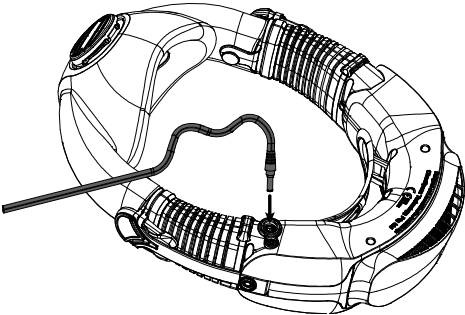

Figure 30 - Charging Port
- To charge the internal battery, turn the respirator upside down, and locate the charging port. See Figure 30 - Charging Port